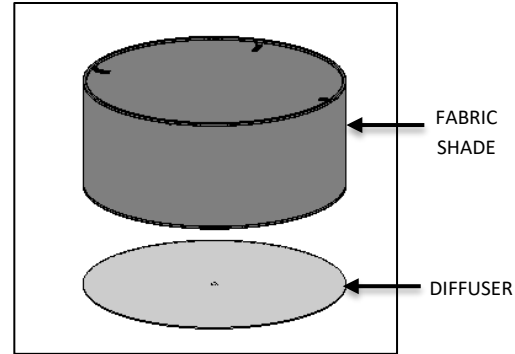

FIG. 25 – DIFFUSER INSTALLATION
11. Insert DIFFUSER into FABRIC SHADE by sliding in at an angle through the bottom (side with no brackets as shown in FIG.25). Be careful not to damage the fabric. DIFFUSER will rest on the frame of fabric shade.